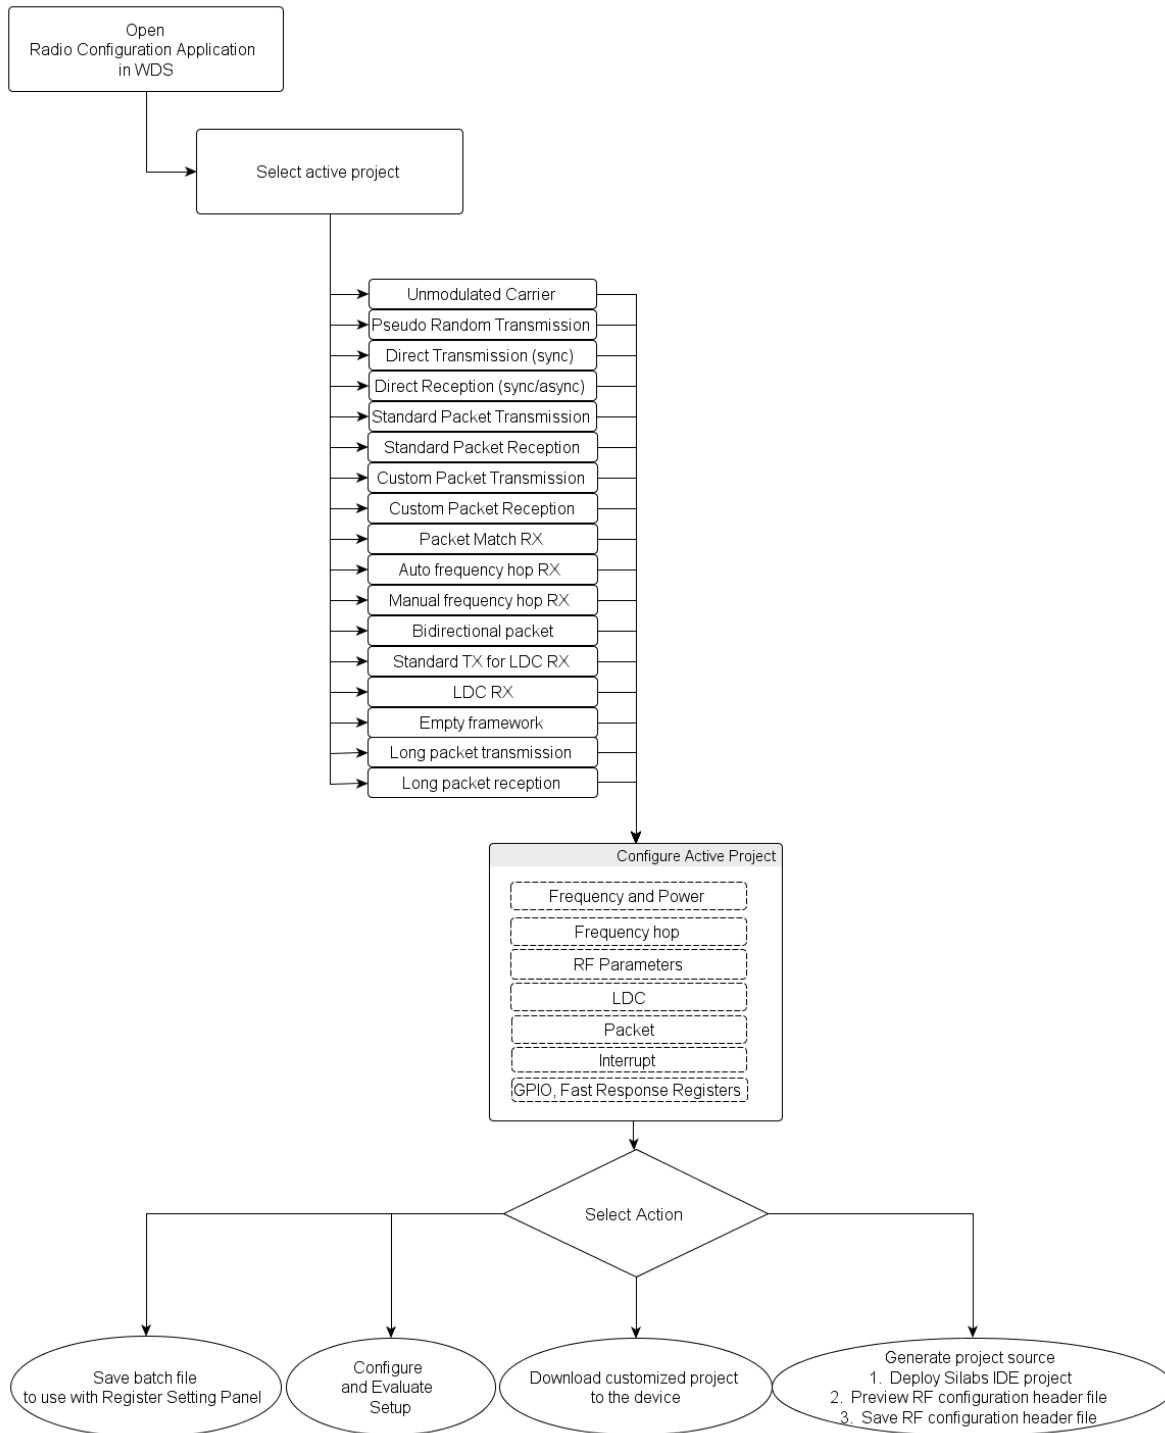

Figure 18. WDS Workflow
For more details of the Example Project, the radio configuration header file and the required SW development tools, refer to “AN633: Programming Guide for the EZRadioPRO® Si4x6x devices”. The general workflow of the Radio Configuration Application is shown in Figure 18.
- Added Figure 18, “WDS Workflow,” on page 26.